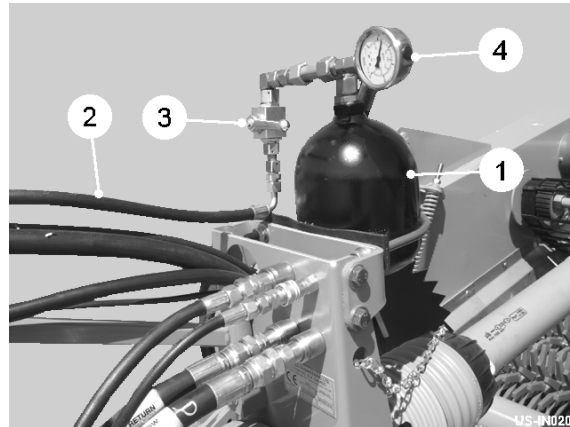

Fig 12
The hydraulically damped drawbar is fitted to protect the machine when operating in soil conditions where buried obstructions may be encountered. The system consists of a hydraulic cylinder mounted within the drawbar pressurised by an accumulator (item 1, fig 12). The design allows the drawbar to extend by 200mm. After 25mm of movement a proximity sensor triggers the control system which simultaneously lifts the digger unit and stops the cross conveyor and vari-flow. After activation the machine elements have to be restarted using the control box. The drawbar must always be pressurised before commencing work.
To set the accumulator pressure, connect the hose (item 2, fig 12) to the tractor spool valve and open the accumulator valve (item 3, fig 12). Open the tractor spool valve while closely watching the pressure gauge (item 4, fig 12). When the pressure reaches 65 bar immediately close the spool valve and then close the accumulator valve. If necessary, reduce the pressure slightly using the accumulator valve. The drawbar is now pressurised and ready for operation. If in work, due to differing soil conditions, the initial setting of 65 bar is found to be too low and the drawbar is extending in normal work, increase the pressure setting by increments of 10 bar until the drawbar is static. **DO NOT EXCEED 120 BAR.** If the drawbar is still not functioning correctly when the maximum pressure is reached, consult your Standen dealer for further advice.